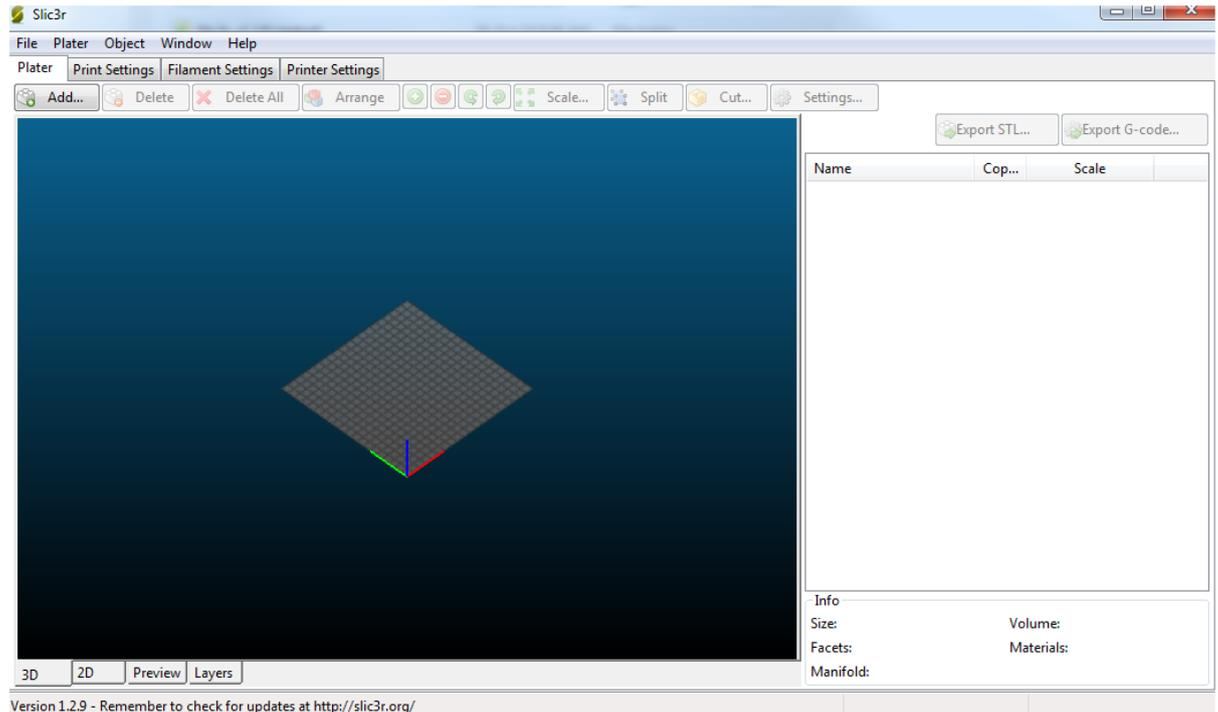
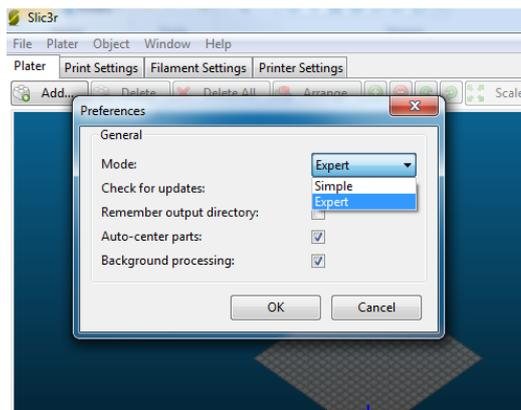

Figure 5. Slic3r tab 'Plater'
Figure 6 Preferences 'Expert mode'
4. The screen ad shown in figure 5 appears. It is important to switch slic3r to Expert mode. Select 'File' -> 'Preferences'. The preferences screen appears (figure 6). Select 'Expert mode'